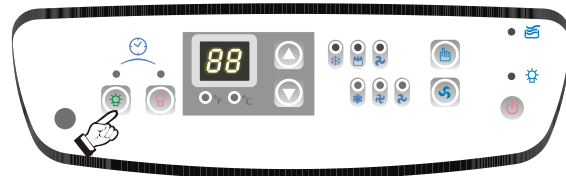
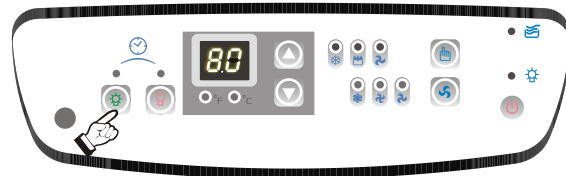

Fig. 21
Fig. 21a
- 6) Press the  **TIMER-ON** key pad to initiate the **AUTO-ON** time sequence Fig. 21. The display window will indicate **the time**. Press the  key to select the desired **AUTO-ON** start time. Fig. 21a.
- 1) Press the **TIMER-ON** key pad to initiate the **AUTO-ON** time sequence. Fig. 21. The display window will indicate **the time**. Press the **TIMER-ON** key to select the desired **AUTO-ON** start time. Fig. 21a.